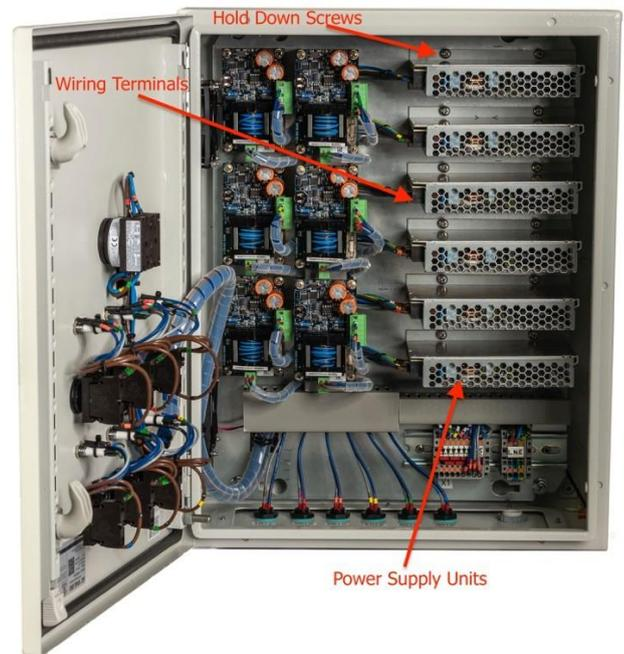

Fig 4
- Remove the hold down screws from the power supply unit (Fig4).
- Undo the termination screws and remove the wires from the power supply unit (Fig 4).